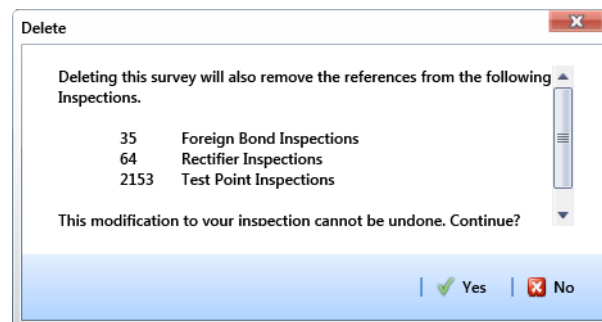

Figure 6-2. Example of Survey Folder Delete Message
Deleting a survey folder typically occurs when you want to clean up data that is no longer needed or when a survey folder has been created accidentally. A message displays listing all facility records assigned to the survey folder allowing you to either cancel the operation or delete the survey folder (Figure 6-2).
- 3 When the *Delete* message displays, click **Yes** to delete the survey folder or **No** to cancel the operation (Figure 6-2).